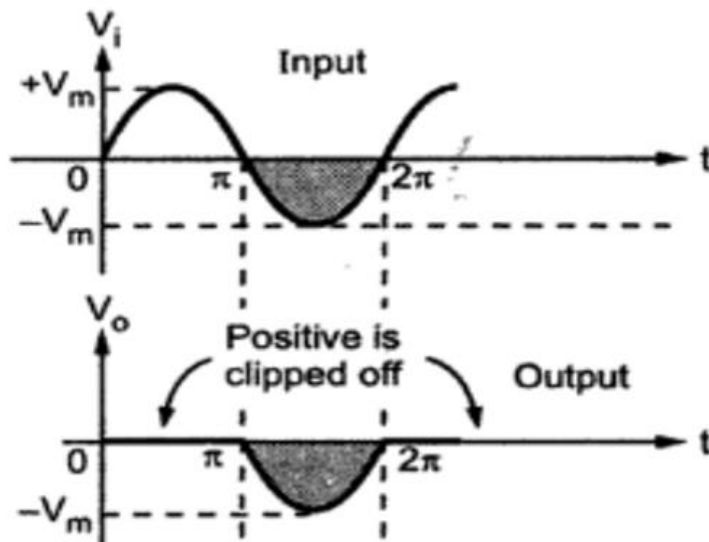

Fig. 2.17 Waveforms of series positive clipper
- The output waveforms for sinusoidal input waveform is shown in the Fig. 2.17.